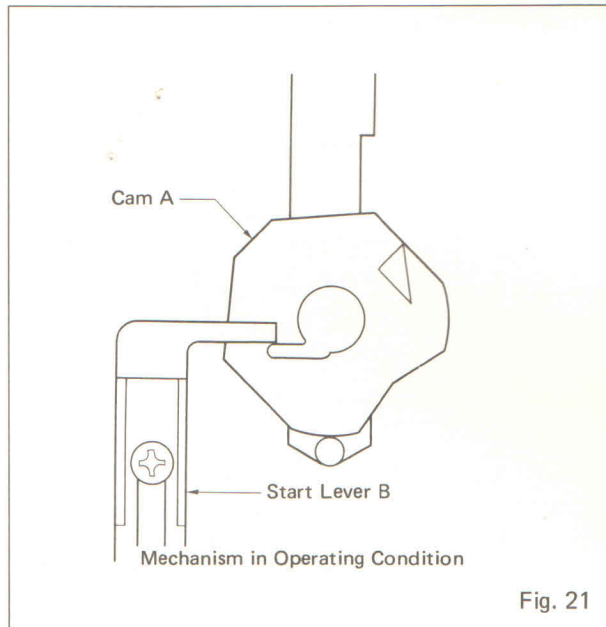

Fig. 21
- (3) At the same time, the Start/Set Lever moves in the direction of arrow D, and maintains the condition shown in Fig. 21.
- (4) Meanwhile, the rotation of Cam A causes the Switch Lever to move along Cam A's surface, switching on the power switch and starting the motor.
- (5) On the other hand, the Start/Stop Lever B will be pushed in the direction of arrow E, so that